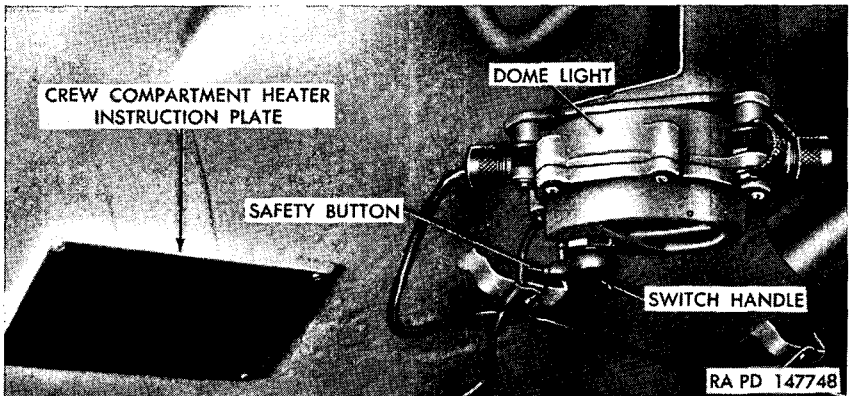

Figure 219. Hull dome light—installed view.
g. **HULL DOME LIGHTS.** Each dome light (fig. 219) has a partition dividing it into two sections, one section having a white lens and the other a red lens. Each section is equipped with a separate lamp. The lamp in the white lens section is turned on for regular use and the lamp in the red lens section is turned on for use in blackout areas. Each dome light has a switch handle with a safety button which must be pressed before the switch can be turned to the white lens section.
a. REMOVAL (fig. 219). Turn off master relay switch (fig. 18). Remove screw in center of switch handle and remove handle. Remove six screws from door and remove door and lens. Remove terminal screw and free feed cables from terminal. Remove cable nut, washer, ferrule, and rubber bushing and pull cable out of light housing. Remove three mounting nuts and lock washers and remove dome light.
b. INSTALLATION (fig. 219). Position dome light on mounting bracket studs and secure with three lock washers and nuts.